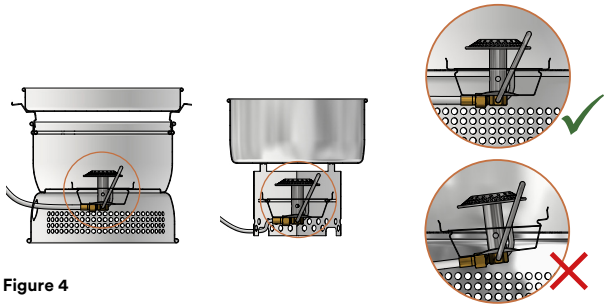

Figure 4
- 3.2 Place the burner in the stove and the hose thru designated hole on the side. Both sides of the holder shall snap in position, and lay parallel to the windshield, see figure 4.